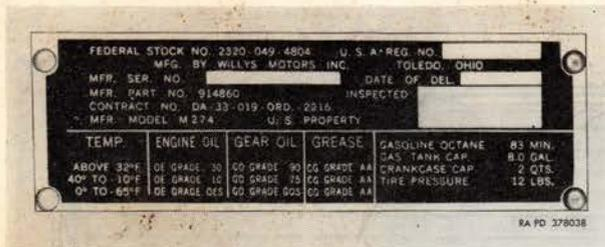

Figure 5. Instruction plate located on left edge of platform showing identification numbers and lubricant and fuel data.
c. The three instruction plates, located on left edge of platform (figs. 5, 6, and 7) give various identification numbers, lubrication data, vehicle dimensions, shipping data, weights, manual numbers, lubrication order number, date of delivery, final inspection mark, allocation of responsibility, and other data.